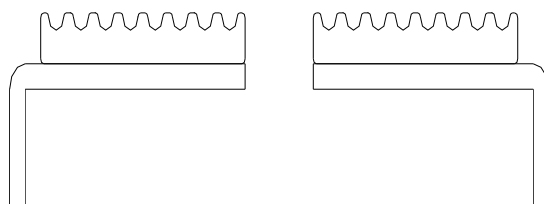

Fig 7.8.4
- e. Move the carriage to the marked position on belt, put on the connecting-pole and fix the connecting-block. Take care of the direction of connecting-block to fix. Refer to Fig. 7.8.4